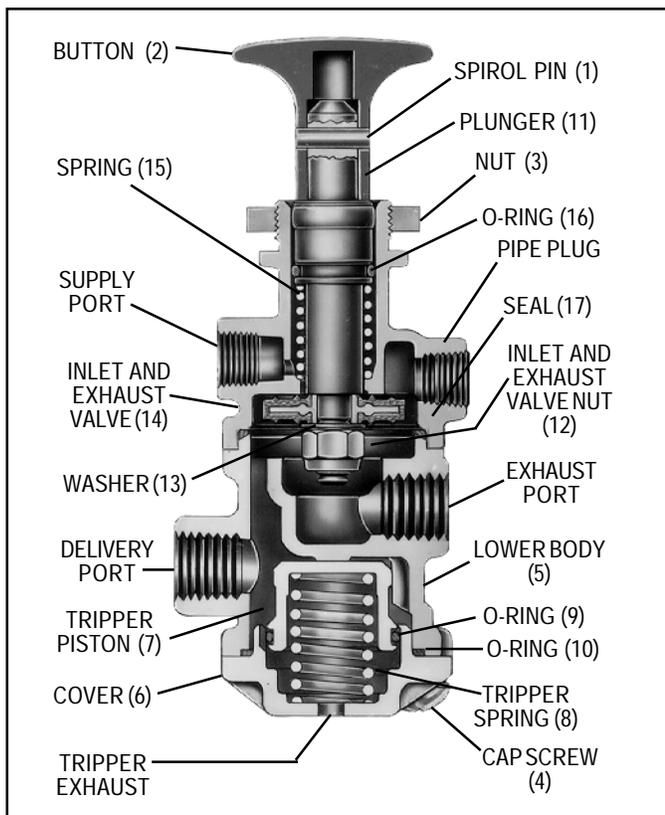

FIGURE 3 - PP-3™ CONTROL VALVE
1. Button pin (1) Figure 3, button (2) and mounting nut (3) are normally removed when valve is removed from vehicle.
2. Remove two lower body cap screws (4) and lock washers, then lower body (5) with cover (6).
3. Remove cover with tripper piston (7) from lower body.
4. Remove tripper piston and spring (8) from cover.
6. Insert rod or punch in upper plunger pin hole and hold plunger (11) from turning while inlet and exhaust valve nut is removed.
7. Remove washer (13) and valve (14).
9. Remove plunger spring (15) and o-ring (16).
10. Remove upper body seal ring (17). Do not remove plugs from ports marked "Del" in upper body.